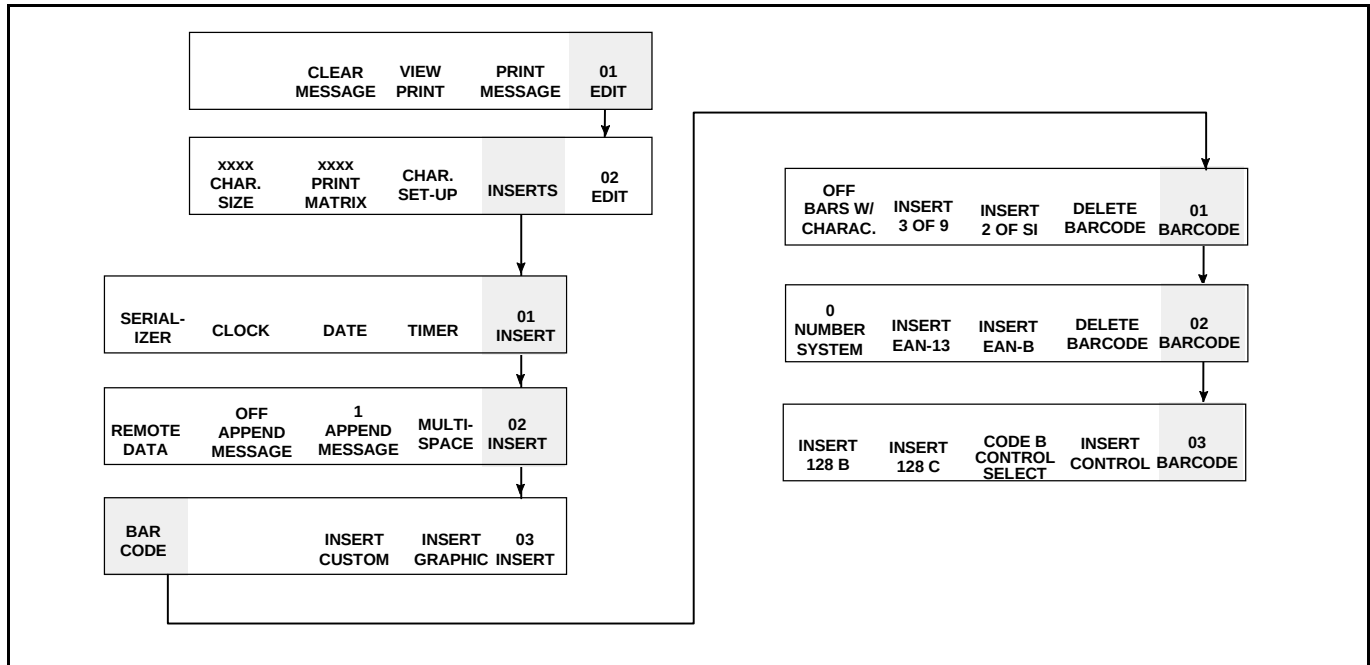

Figure 6-50. Accessing Frame <02 BARCODE>
1. Begin in Frame <03 INSERT>. Refer to Figure 6-50.
2. Press **F1** to select <BAR CODE>. Then press **F5**. Frame <02 BARCODE> appears in the display. Refer to Figure 6-50.